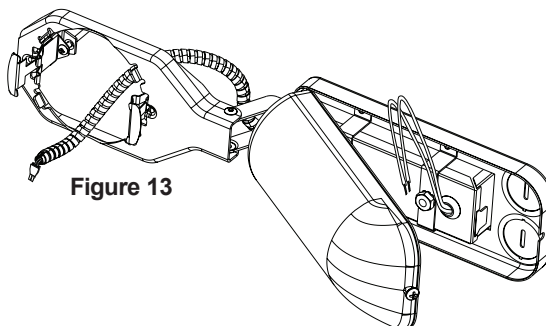

Figure 13
Step 2. Remove wiring compartment cover. Remove the appropriate knock-out(s) to accommodate the type of electrical supply being used (Fig. 13):
Step 3. Strip supply wire 3/8" and insert each supply wire into appropriate connector. Connect black fixture wire to hot, white fixture wire to neutral and green fixture wire to ground. (Fig. 13).